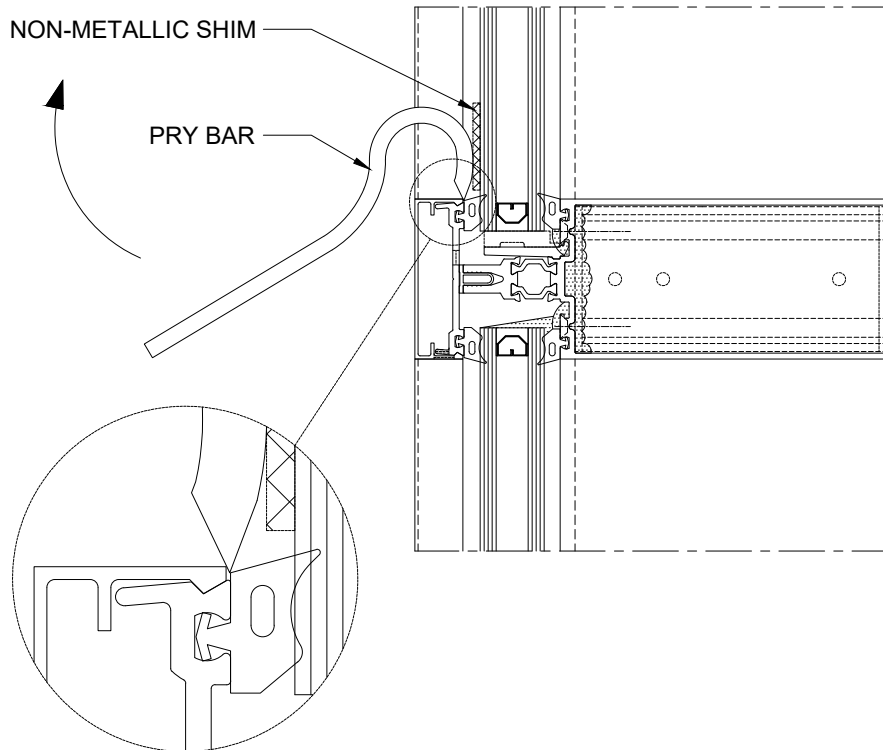

Fig. 12 (Reglazing)
- 7.1 Reglazing must be done from the exterior. Carefully remove face covers surrounding the lite of the glass to be reglazed as shown in **Fig. 12**.